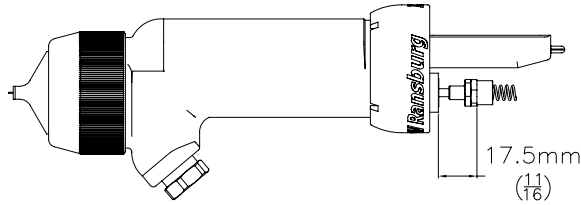

Figure 45: Trigger Adjustment Nut Dimensions
21. Adjust the needle shaft spring retainer until the rear of the hexagon is 11/16 inch from the rear surface of the barrel packing chamber (refer to Figure 45).